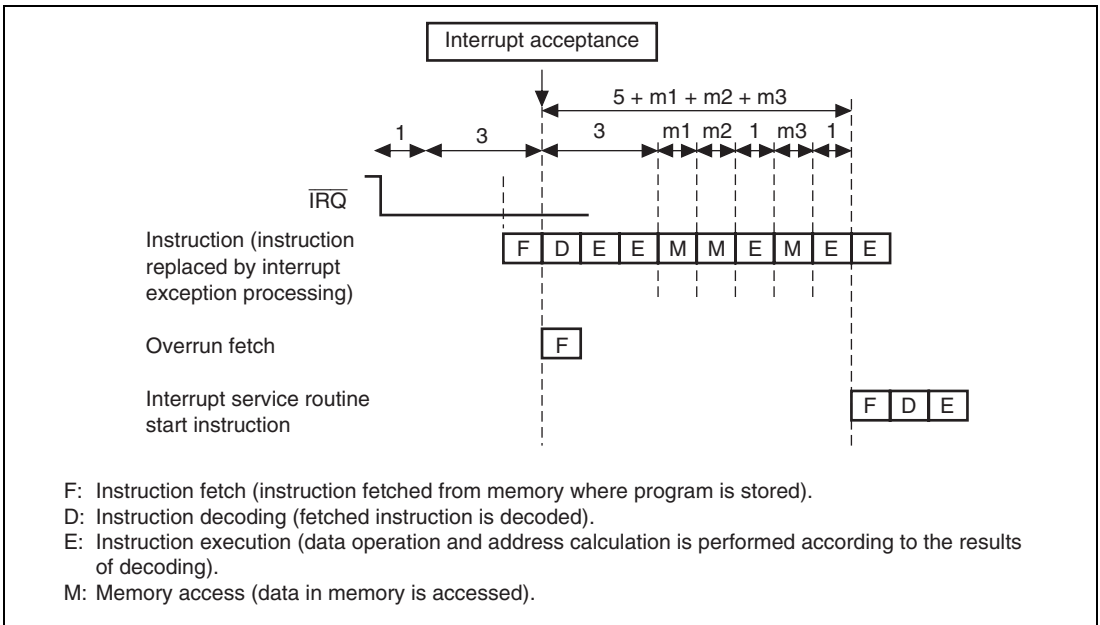

**Figure 6.5 Example of Pipeline Operation when IRQ Interrupt Is Accepted**
3. The interrupt controller compares the priority level of the selected interrupt request with the interrupt mask bits (I3 to I0) in the CPU's status register (SR). If the request priority level is equal to or less than the level set in I3 to I0, the request is ignored. If the request priority level is higher than the level in bits I3 to I0, the interrupt controller accepts the interrupt and sends an interrupt request signal to the CPU.
5. The CPU detects the interrupt request sent from the interrupt controller when CPU decodes the instruction to be executed. Instead of executing the decoded instruction, the CPU starts interrupt exception processing (figure 6.5).
7. The priority level of the accepted interrupt is copied to the interrupt mask level bits (I3 to I0) in the status register (SR).
8. When the accepted interrupt is sensed by level or is from an on-chip peripheral module, a high level is output from the  $\overline{\text{IRQOUT}}$  pin. When the accepted interrupt is sensed by edge, a high level is output from the  $\overline{\text{IRQOUT}}$  pin at the moment when the CPU starts interrupt exception processing instead of instruction execution as noted in (5) above. However, if the interrupt controller accepts an interrupt with a higher priority than the interrupt just to be accepting, the  $\overline{\text{IRQOUT}}$  pin holds low level.
Table 6.3 lists the interrupt response time, which is the time from the occurrence of an interrupt request until the interrupt exception processing starts and fetching of the first instruction of the interrupt service routine begins. Figure 6.5 shows an example of the pipeline operation when an IRQ interrupt is accepted.